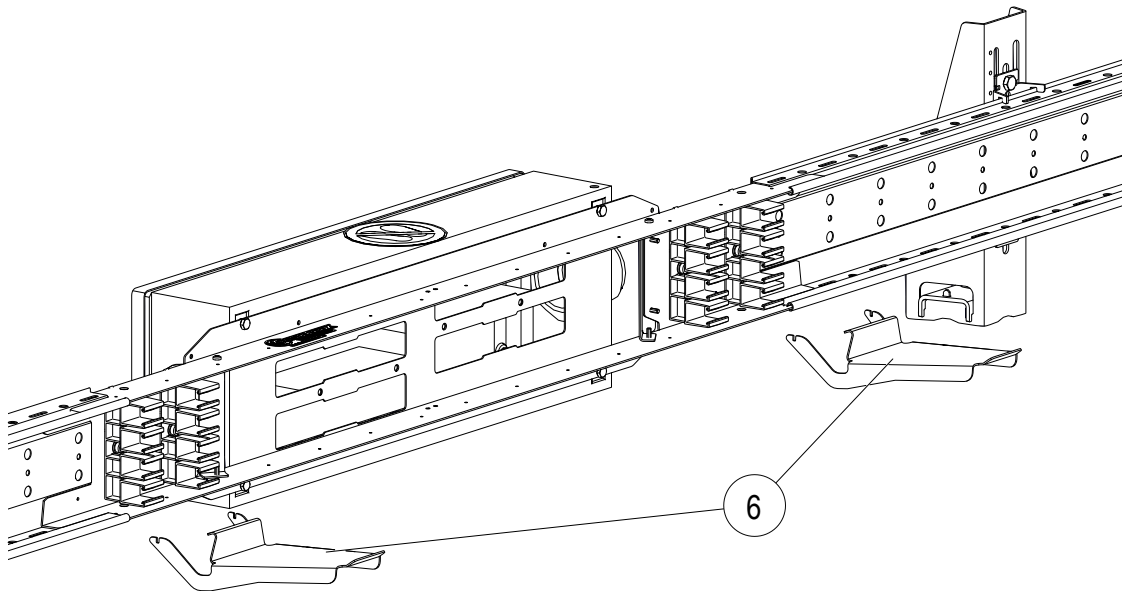

Fig. 26: Hook auxiliary console (6) onto ProShell support profile
1. Hook the auxiliary consoles (6) onto the ProShell support profile rails (see Fig. 26).